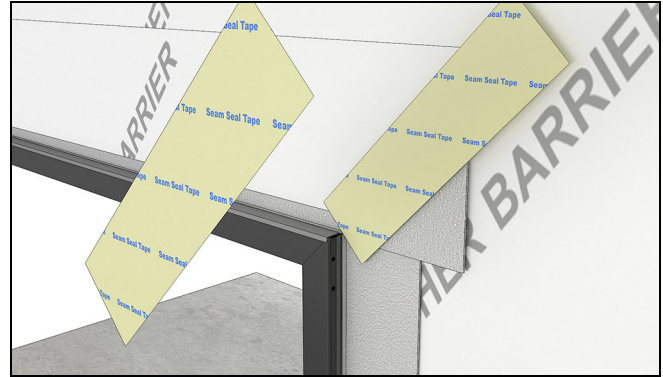

Figure 69
10. Fold the head jamb WRB down over the head jamb flashing. Apply seam seal tape over the diagonal cut in the WRB. Make sure the seam seal laps onto the window. Tape any seams and fasteners directly above the unit with seam seal tape. See Figure 69.